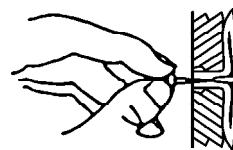

Figure 8 - Popping Open Anchor Wing For Thin Walls
4. For thin walls (1/2" or less), insert red key into wall anchor. Push red key to "pop" open anchor wings (see Figure 8).